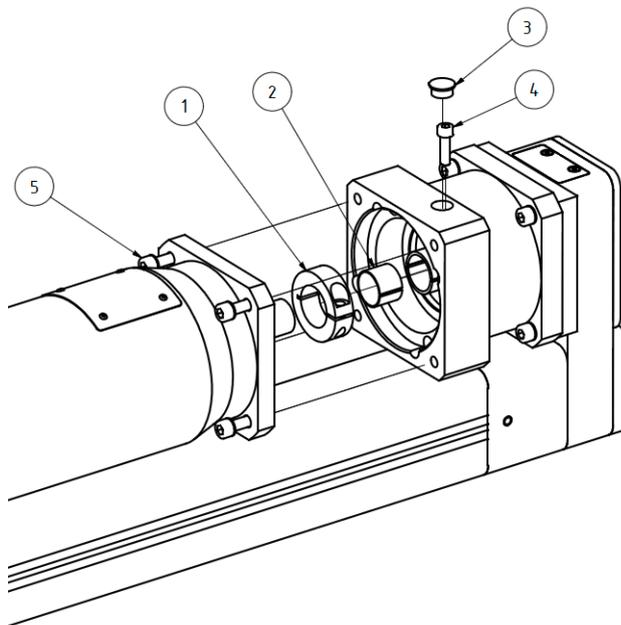
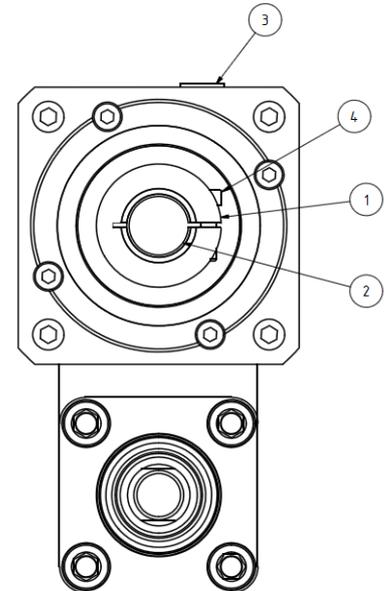

Figure 23: Disassembly of an EX-motor
Figure 24: Flange view: Disassembly of an EX-motor
- ◆ Remove cover plate (please refer to Figure 23 Pos. 3) and loosen screws (please refer to Figure 23 Pos. 4)
- ◆ Loosen motor fixing screws (please refer to Figure 23 Pos. 5)
- ◆ Clean contact surfaces of motor, motor shaft, motor flange, hollow shaft bore, clamping ring (please refer to Figure 23 Pos. 1)) and spacer sleeve (please refer to Figure 23 Pos. 2).
- ◆ Shaft, bore, clamping ring (please refer to Figure 23 Pos. 1) and spacer sleeve (please refer to Figure 23 Pos. 2) must be free from burrs, dirt and grease. Push the spacer sleeve (please refer to Figure 23 Pos. 2) in the hollow shaft bore up to its stop.
- ◆ Put the clamp collar (please refer to Figure 23 Pos. 1) onto the hollow shaft and shift it up to the stop.
- ◆ Align the slot of the clamping ring (please refer to Figure 23 Pos. 1) and the spacer sleeve (please refer to Figure 24 Pos. 2) to the slot of the hollow shaft.
- ◆ Align the hollow shaft so that the clamping screw (please refer to Figure 24 Pos. 4) stands over the opening of the flange.
- ◆ Insert and tighten motor fixing screws slightly (please refer to Figure 23 Pos. 5).
- ◆ Insert and tighten clamping screws slightly (please refer to Figure 23 Pos. 4).
- ◆ Tighten clamping screw (please refer to Figure 23 Pos. 4) with the respective tightening torque.
- ◆ Close the opening in the motor flange with the lid (please refer to Figure 23 Pos. 3)